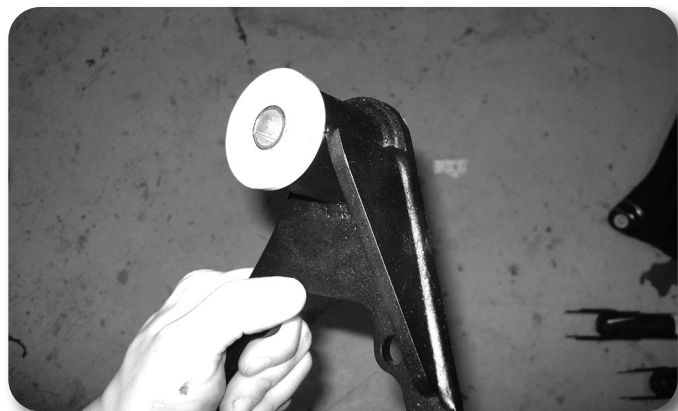

Figure 26
39. Install the provided large bushings and 0.875" OD x 2.620" long sleeve into the eye of the new center differential bracket **Figure 26**.